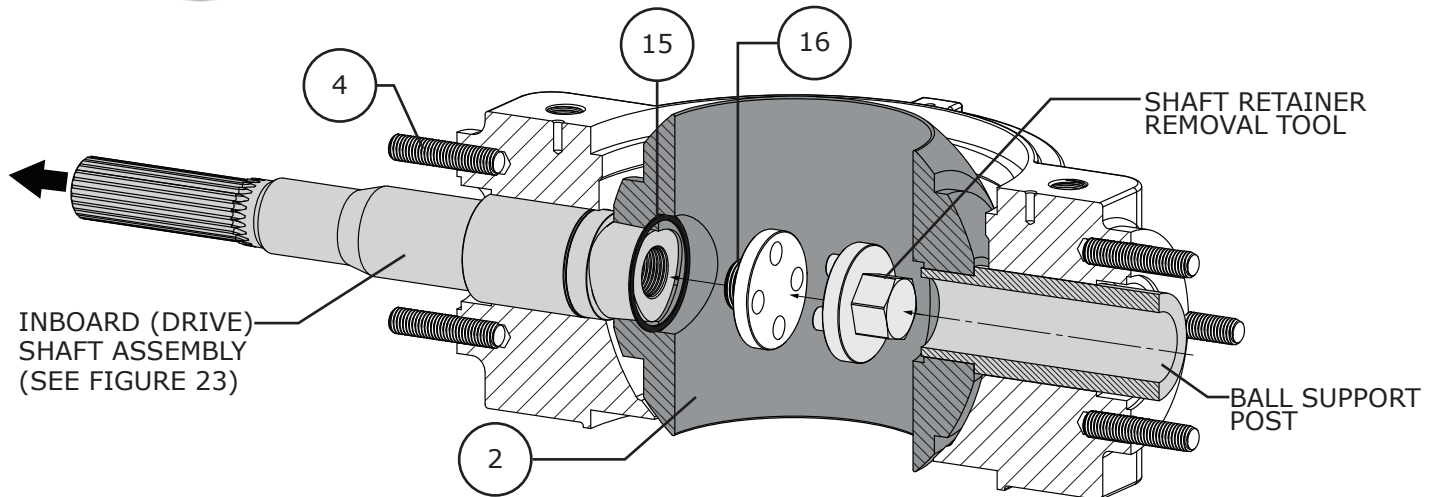

Figure 22 Inboard (Drive) Shaft Disassembly
- 4** Temporarily support the ball (Key 2) and remove the follower shaft (Key 21). It is recommended that a ball support post be installed into the follower shaft bore to support the ball during INBOARD (DRIVE) SHAFT DISASSEMBLY. Refer to Figure 22.
- Refer to Figure 22.
- Shaft retainer (Key 16) removal tool (Refer to Table 8 and Figure 22). Needed for Step 1 of INBOARD SHAFT DISASSEMBLY.
- 1 With the ball (Key 2) supported, remove the shaft retainer (Key 16). **NOTE:** it may be necessary to immobilize the valve shaft (Key 17) and apply heat to the shaft retainer to loosen the thread locking compound from the threads. A shaft retainer removal tool will be required. Refer to Figure 22.